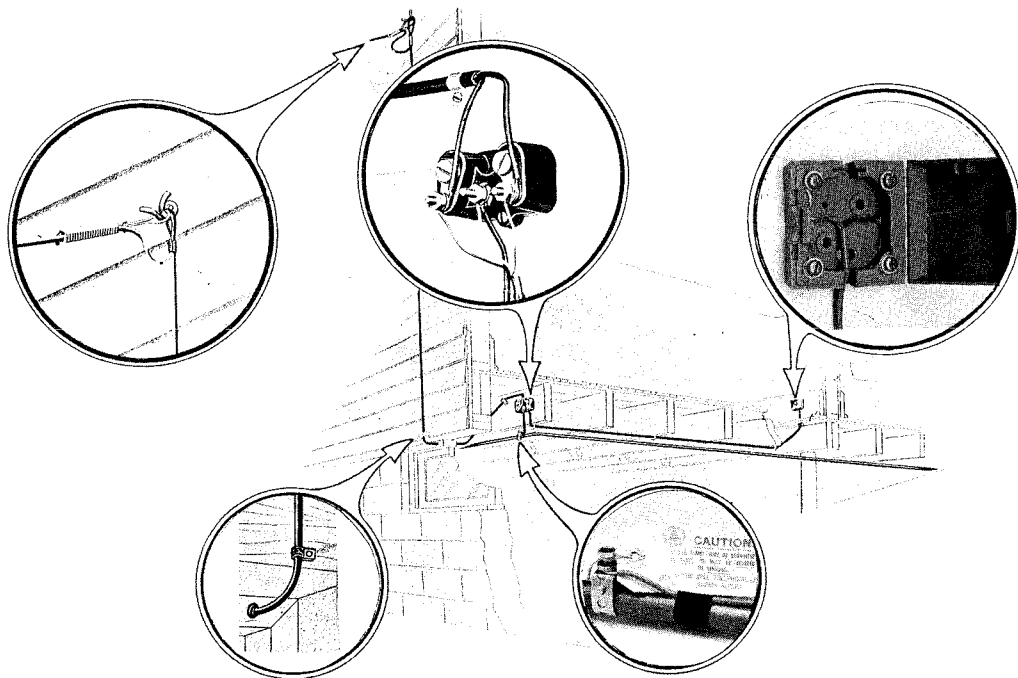

Fig. 1—Typical Wiring Routes
1.03 Figure 1 shows the various points which should be considered in selecting routes for wires. Consideration should be given to the location of the telephone, protector, and ground clamp, as well as to the drop wire and point of entrance, before planning the wire route.